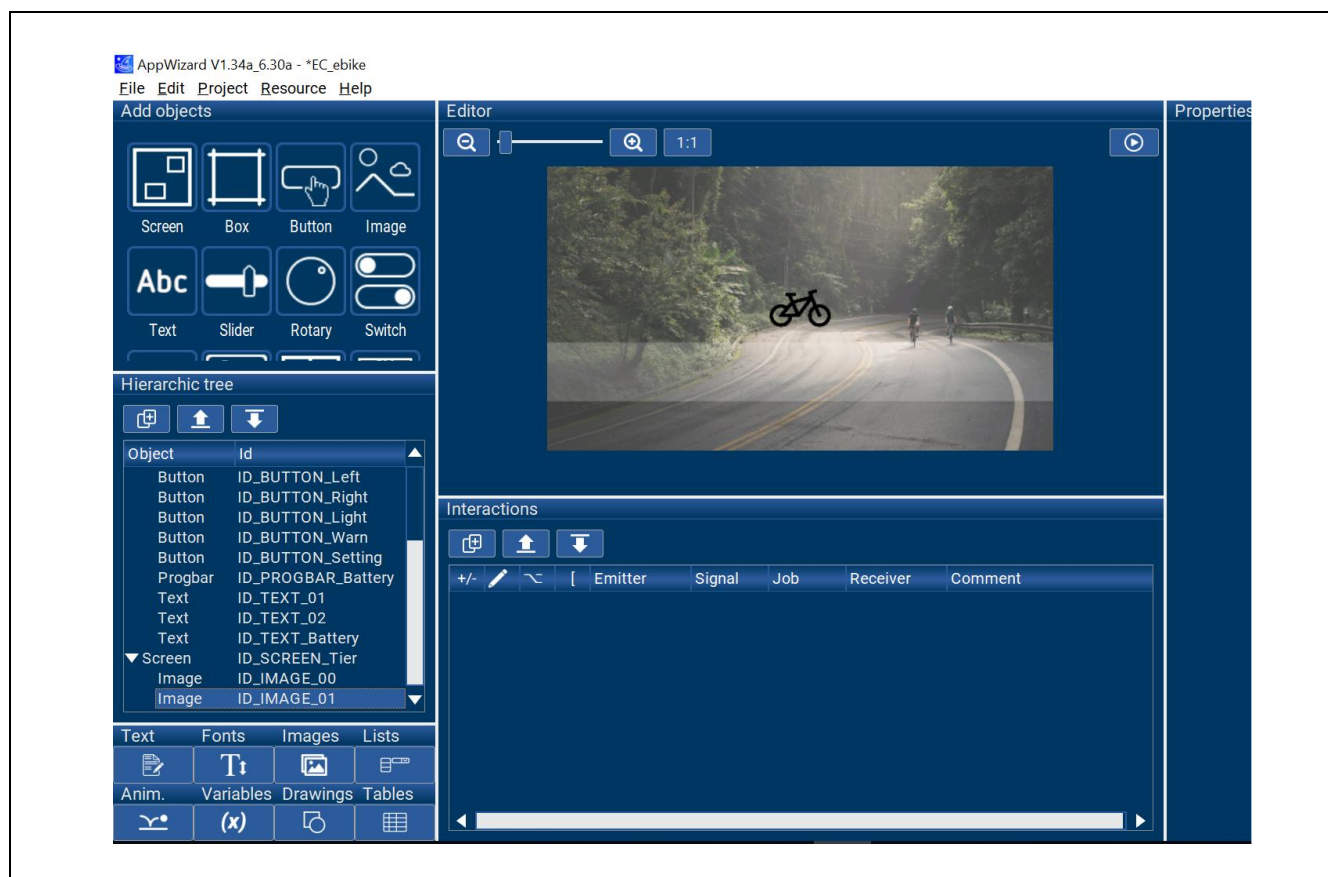

Figure 1-45 Using Image Object to Import Bike Image
25. Follow step 12 to 13 to select the bike image. After completing the steps, the result should be shown as Figure 1-45.